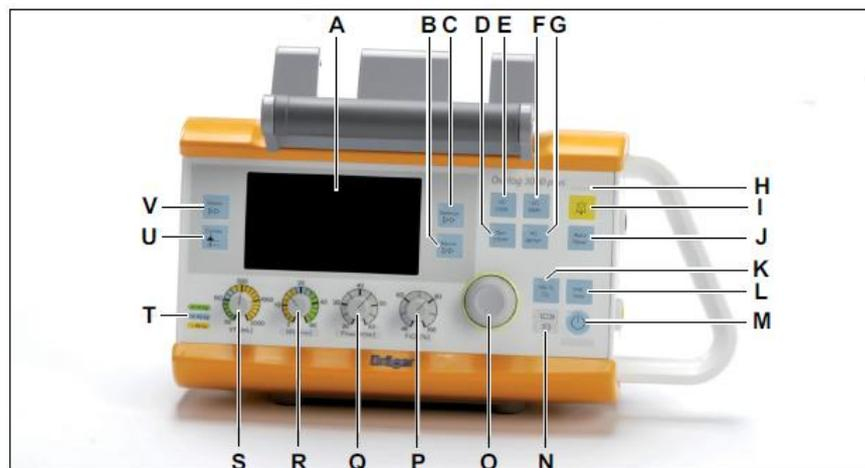

Figure 1 Oxylog 3000 control panel
- the indicator lights (shown as H on Figure 1) will either flash red/yellow or light yellow